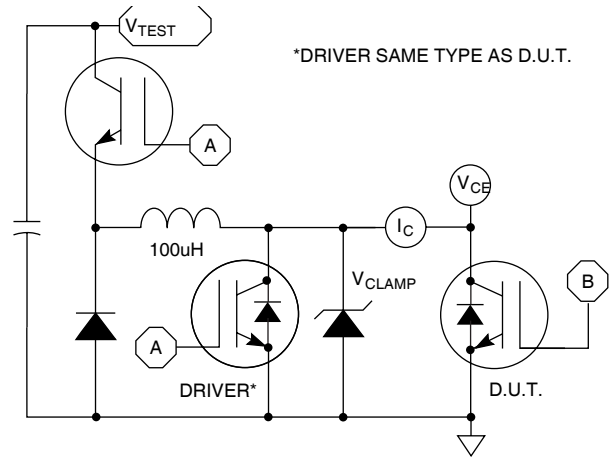

Figure 24, E_{ON1} Test Circuit
- ① Repetitive Rating: Pulse width limited by maximum junction temperature.
- ② For Combi devices, I_{ces} includes both IGBT and Silicon Carbide Schottky leakages
- ③ See MIL-STD-750 Method 3471.
- ④ E_{on1} is the clamped inductive turn-on-energy of the IGBT only, without the effect of a commutating diode reverse recovery current adding to the IGBT turn-on loss. (See Figure 24.)